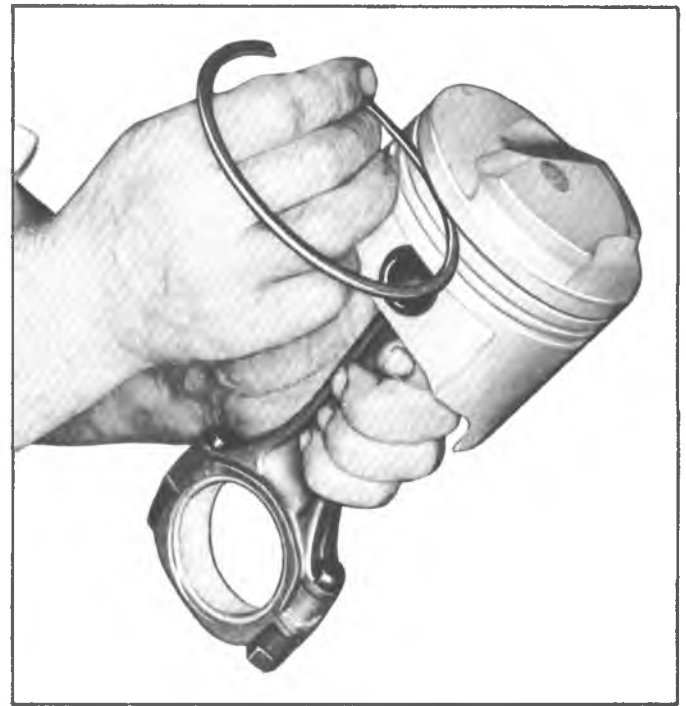

Fig. 56—Checking Ring In Groove
7. Slip the outer surface of the top and second compression ring into the respective piston ring groove and roll the ring entirely around the groove (fig. 56) to make sure that the ring is free. If binding occurs at any point the cause should be determined, and if caused by ring groove, remove by dressing with a fine cut file. If the binding is caused by a distorted ring, check a new ring.